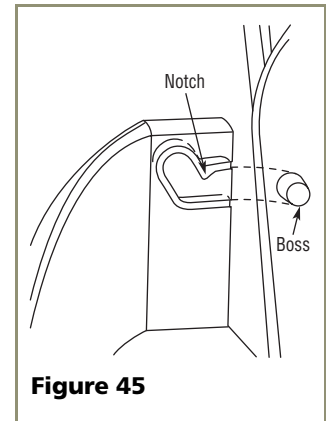

Figure 45
1. First pull shelf up at a 45° angle, then straight out (see **Figure 45**).